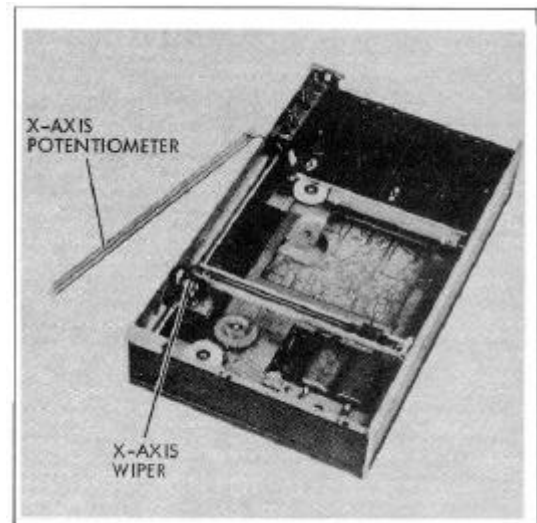

FIGURE 5-7. REMOVAL OF X-AXIS REBALANCE POTENTIOMETER
- b. Remove 2 screws mounting slidewire assembly to frame. See Figure 5-7.